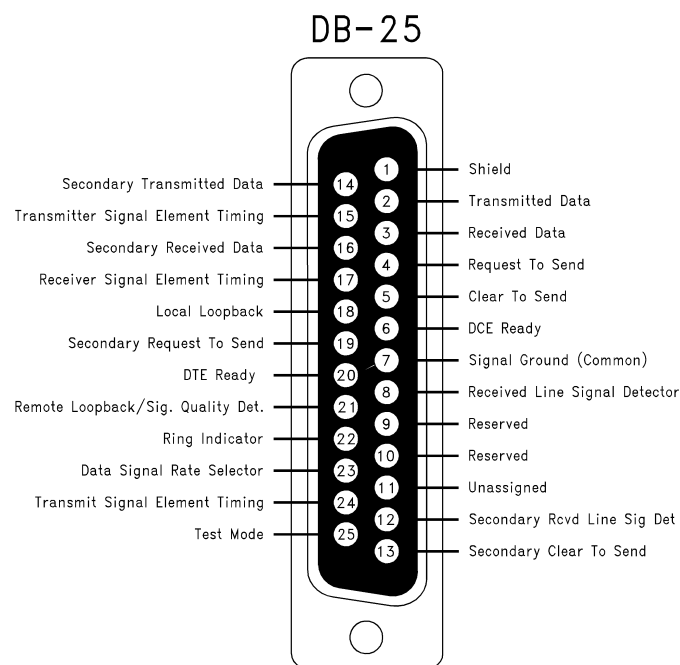
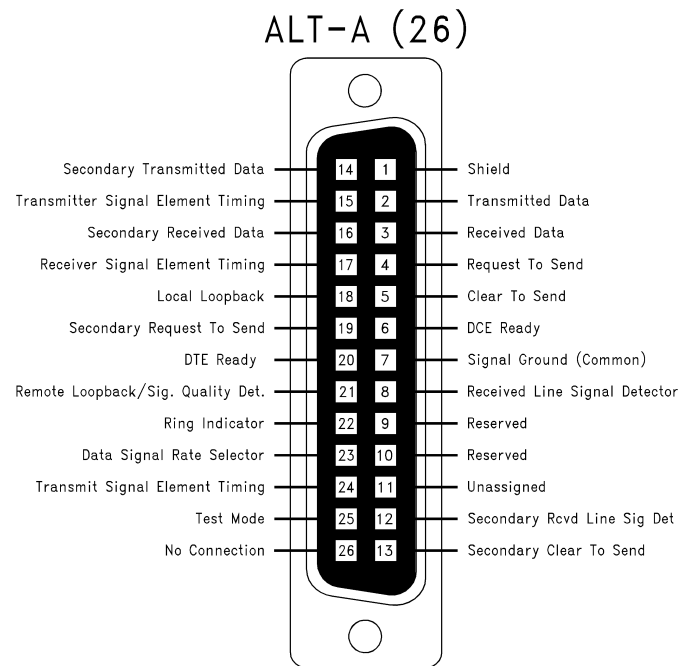
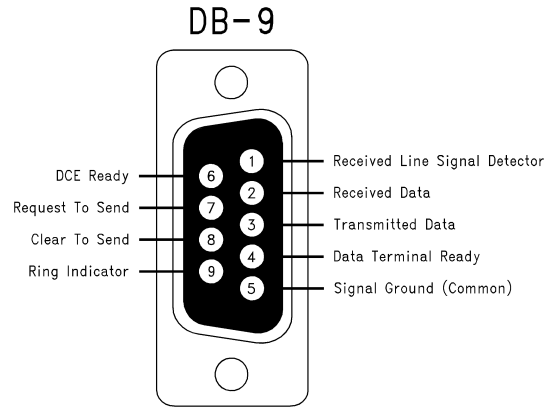

Figure 1. RS-232 DB-25
Figure 2. RS-232 ALT-A
Figure 7. EIA/TIA-574 DB-9
RS-232 is one of the most popular interface standards in the world. Originally intended for DTE/DCE interfacing, this standard has been used in a wide range of applications including telecom, computing, test and measurement, and industrial control applications. Now in its fifth revision (E), RS-232 is still very popular, and new devices (line drivers and receivers) are being developed to support the standard. The correct name of the standard is EIA/TIA-232-E which has replaced the more common RS-232 nomenclature. This standard specifies two connectors, the standard DB-25, also a new smaller alternate connector with 26 pins. The original version of RS-232 dates back to the early 1960s and is known as a complete standard as it specifies all functional, electrical, and mechanical specifications. There is also a very popular 9 pin defacto version of this standard commonly employed on personal computers that was developed by IBM®. The two full (25 line) connector pin outs are shown on Figure 1 and Figure 2. See Figure 7 for an illustration of the defacto 9 pin implementation, now standardized as EIA/TIA-574.
EIA/TIA-574 was developed due to confusion arising between the official RS-232 interface and the exceedingly popular defacto 9-pin version developed by IBM. This standard specifies the DB-9 interface, however, it recommends the use of the RS-562 standard instead of RS-232 electrical levels. It is noted that EIA/TIA-562 can inter-operate with RS-232 drivers and receivers in many applications. This standard supplies the minimum number of lines for non-synchronous serial data interchange between DTEs and DCEs. The connector pin out is shown in Figure 7.